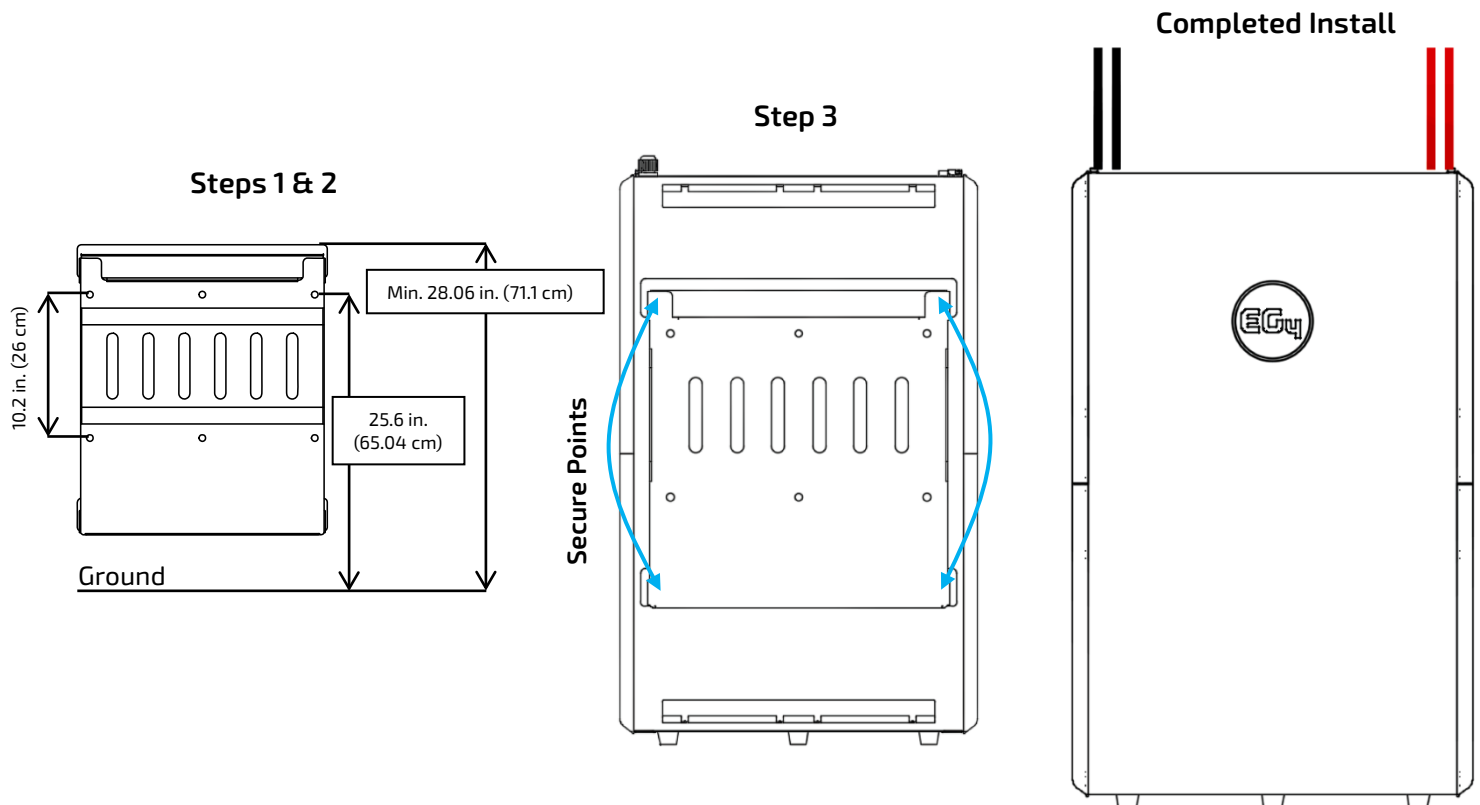

Figure 10 – WallMount Installation without Conduit Box
3. Attach the WallMount battery pack to the mounting bracket. To accomplish this, lift the battery up and hook the flange on the back of the battery into the flange on the front of the mounting bracket. Secure the battery to the mounting bracket with the 4 included side screws (see Figure 10)